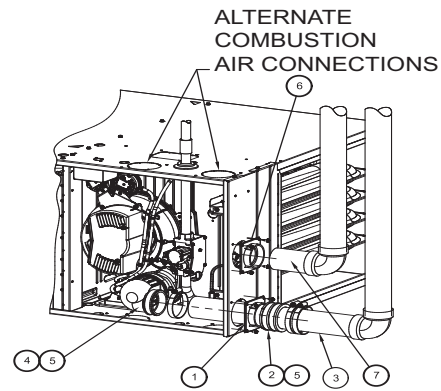

Fig. 57 – Horizontal Right (Appearance May Vary)
3. Tighten the clamp around the vent elbow. Torque the clamp to 15 lb-in. See Fig. 54 - Fig. 57.